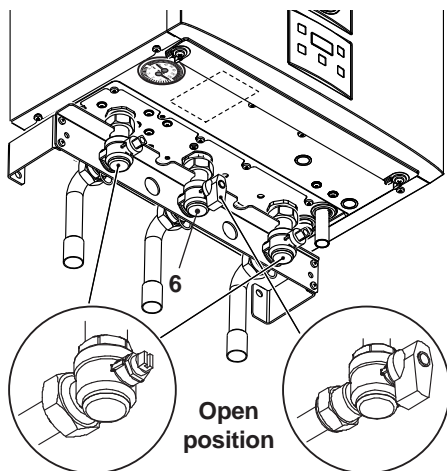

Fig. 7.1
- Open the gas cock 6 (Fig. 7.1) on the appliance and check the gas connector on